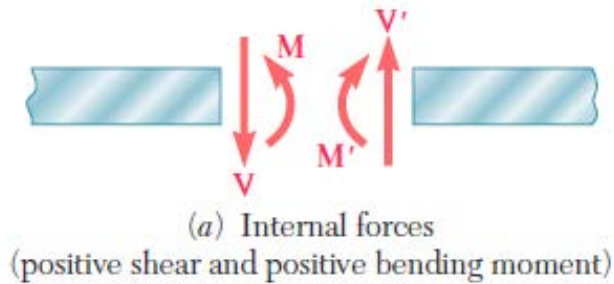

Figure 2.5
- ▶ The shear V and the bending moment M at a given point of a beam are said to be positive when the internal forces and couples acting on each portion of the beam are directed as shown in Figure 2.5.